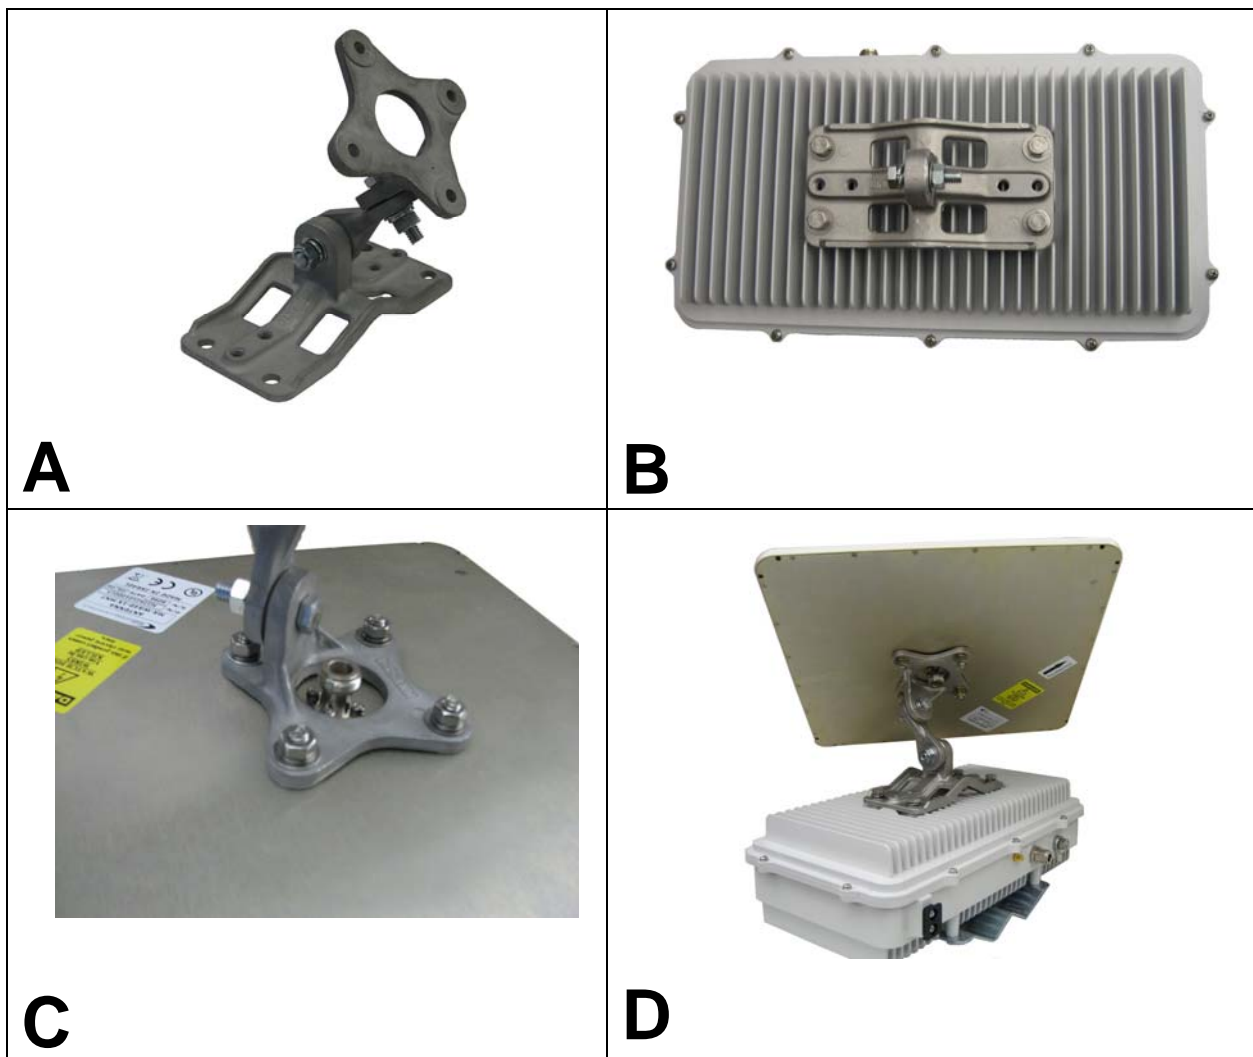

Figure 6-5: Mounting a Directional Antenna to a unit (VIDA Broadband Base Station shown)
1. Using the four bolts, lock washers, and flat washers included in the kit, attach the universal antenna mounting bracket, shown in Figure 6-5-A, to the unit as shown in Figure 6-5-B.
2. Attach the antenna panel bracket assembly to the antenna panel, as shown in Figure 6-5-C.
3. Attach the two bracket assemblies together with the universal knuckle, as shown in Figure 6-5-D.